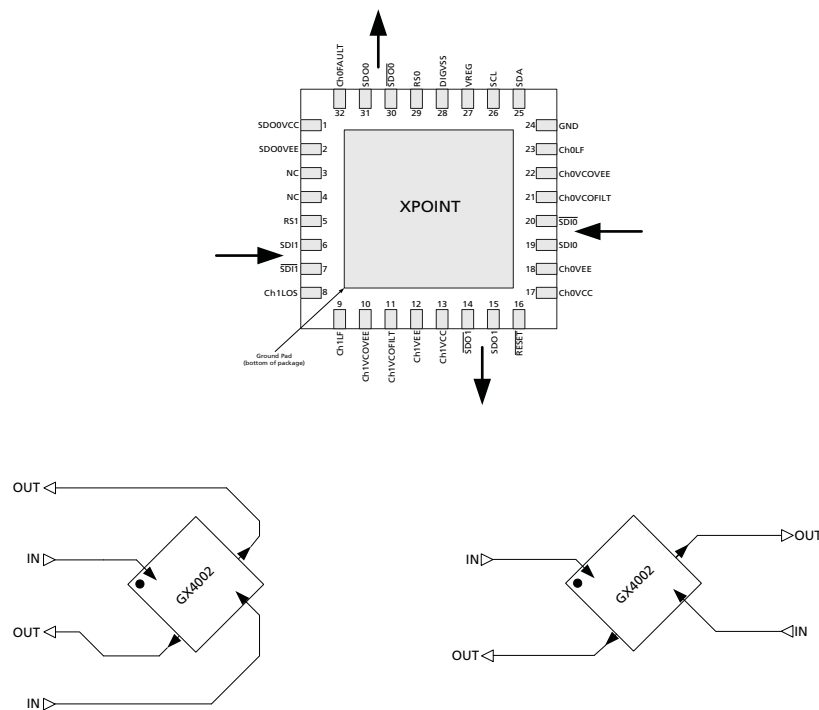

Figure 5-1: Sample Layouts
- Some sample layouts are shown in Figure 5-1